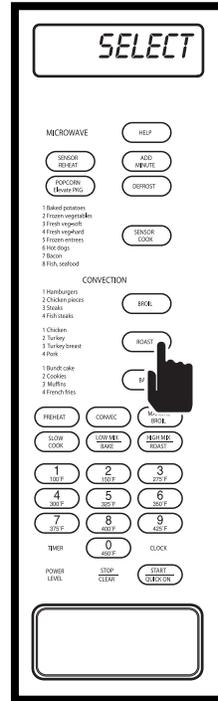

Figure 3-99.
1. Press the ROAST key, “SELECT - FOOD - NUMBER” will flash on display (See Figure 3-99).